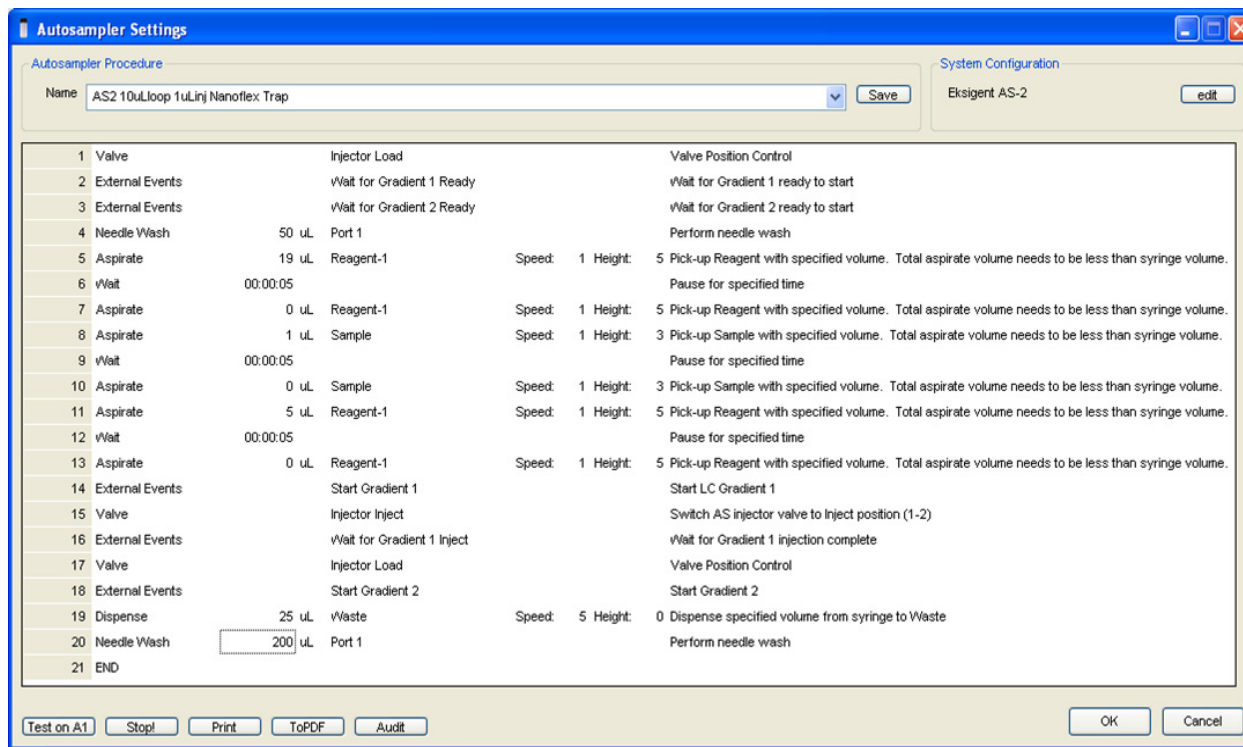

Figure 1-12 Autosampler Settings dialog—trap-elute configuration (Nanoflex system or column installation)
3. Create the autosampler method for a trap-elute configuration, as shown in Figure 1-12.